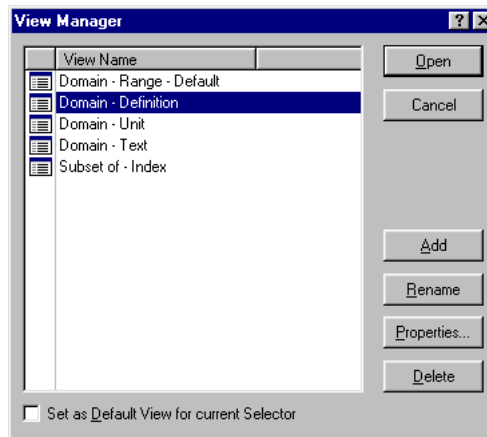

Figure 3.17: View Manager window
- ▶ select the 'Domain - Definition' entry from the **View Manager** window (see Figure 3.17, and